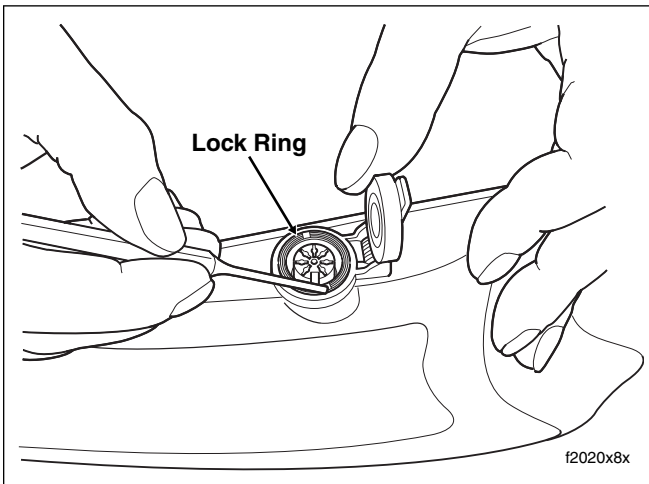

Figure 8-145. Remove Lock Ring from Receptacle Using Pin Punch
3. Raise headset receptacle cap. Place pin punch in either notch of lock ring and rotate in a counterclockwise direction until loose. See Figure 8-145.